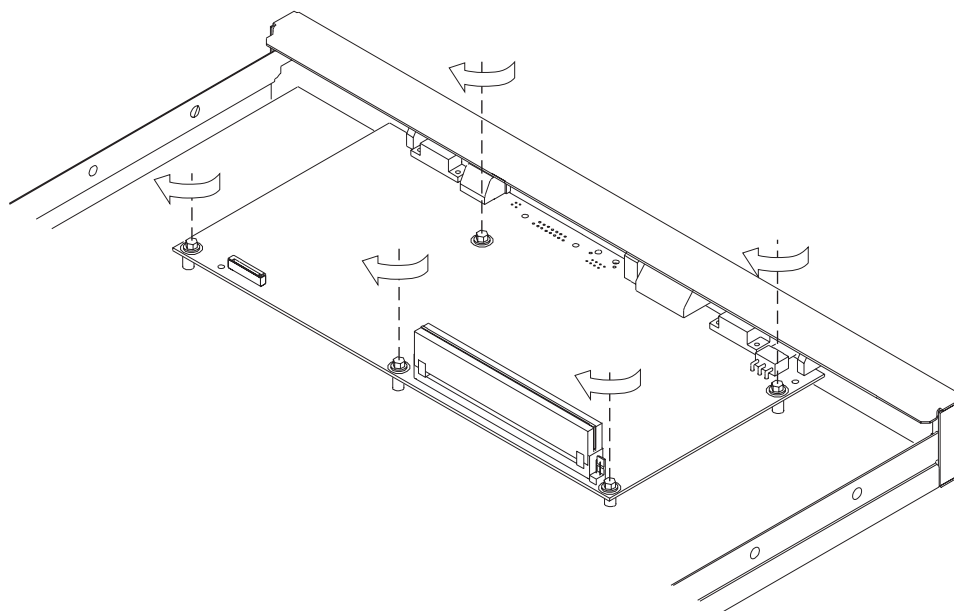
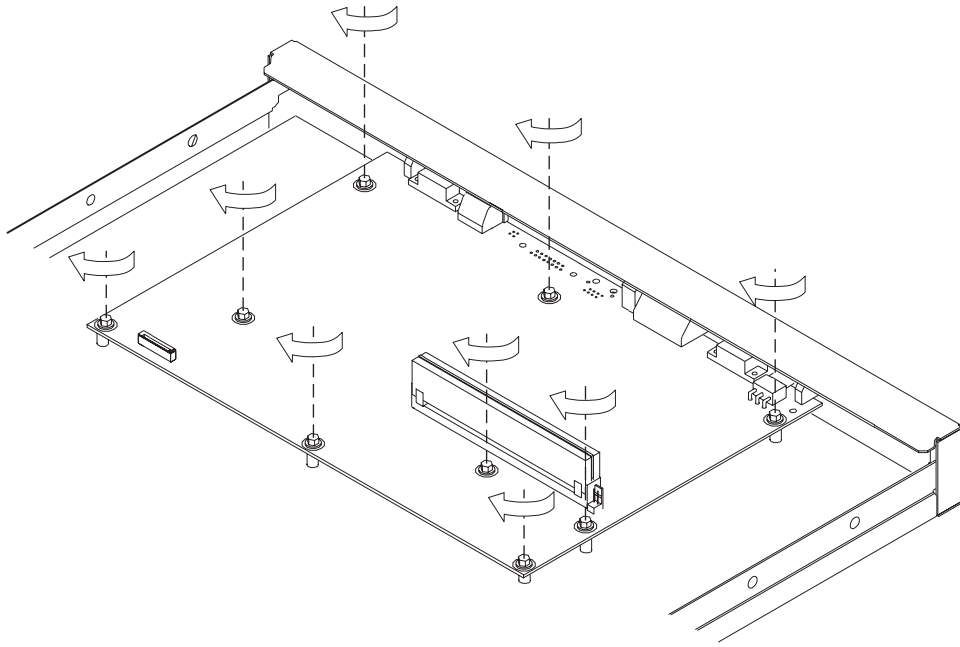

Figure 4-9. Non-ISDN System Board (12x Models)
Figure 4-10. ISDN System Board (12x Models)
- 3** Replace the system board retainer screws using a nut driver. Figure 4-9 and Figure 4-10 on page 4-8 show the locations of the retainer screws for system boards that do and do not support ISDN.